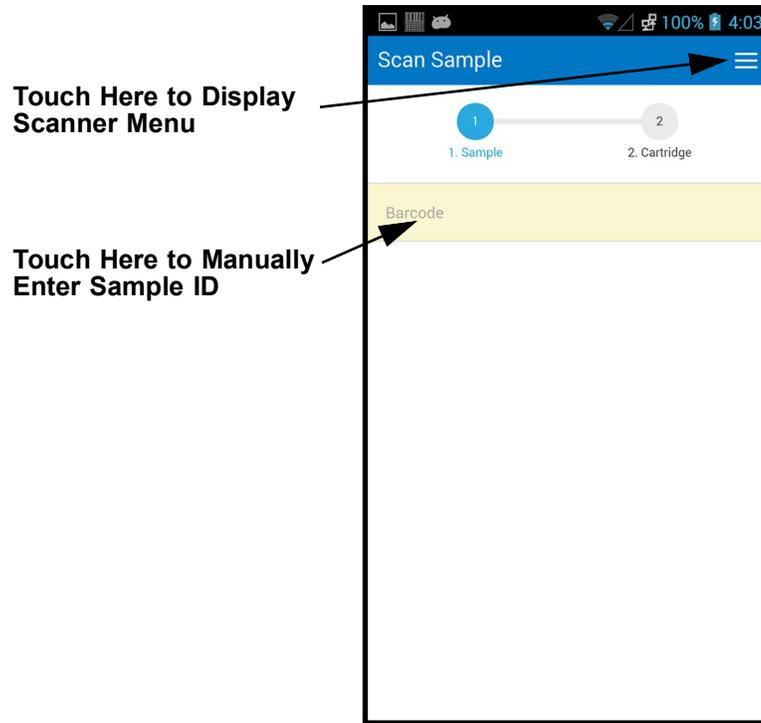
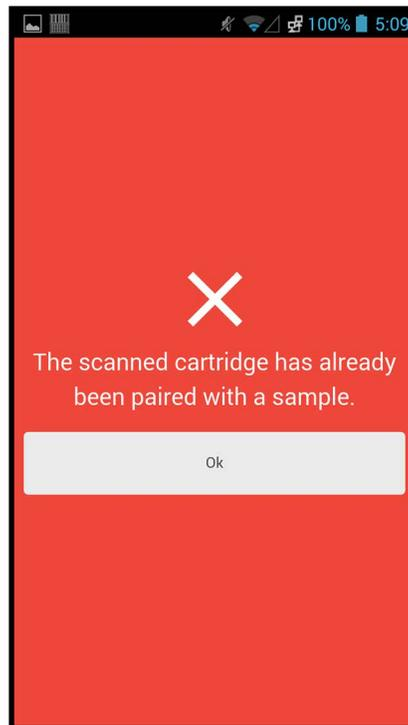
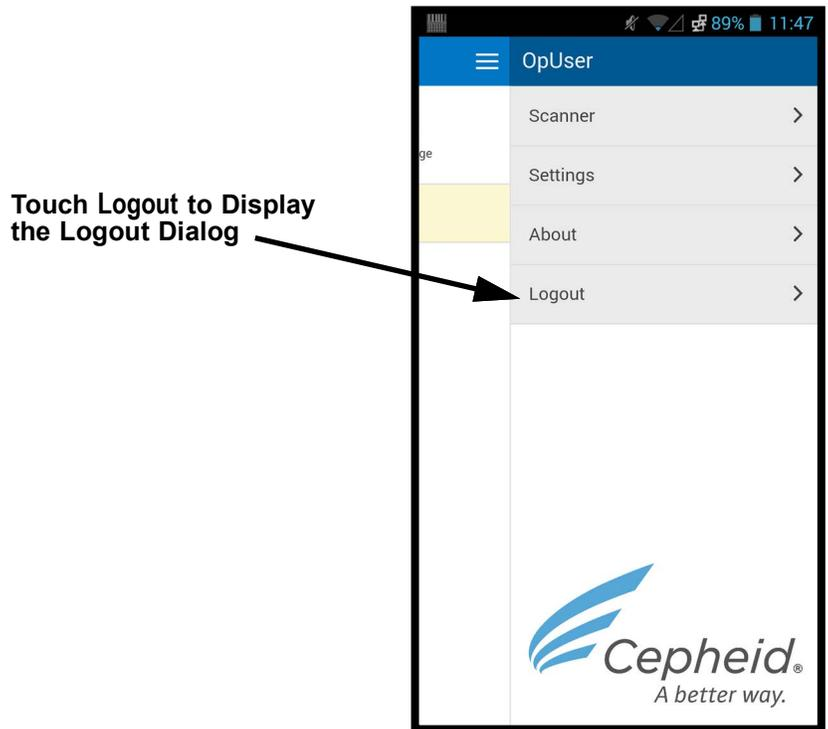

Figure 5-102. Cepheid Link Scan Sample Screen
Figure 5-108. Cepheid Link Scanned Cartridge Error Screen
Figure 5-111. Cepheid Link Scanner Drop Down Menu
3. Log into the Cepheid Link scanner using your assigned user name and password (see Figure 5-101). The Scan Sample screen will be displayed. See Figure 5-102.
- 1) Touch the **Barcode** area of the screen (see Figure 5-102). A keyboard will be displayed (see Figure 5-105) to enter the sample ID manually.
- If the cartridge is not successfully paired with the sample, the Error (Red X) screen will be displayed along with the error message (see Figure 5-108) for an example. Touch the **Ok** button to return to the Scan Cartridge screen. The scanner will return to the Scan Sample screen (see Figure 5-102).
- The scanner will display the Confirmation screen (see Figure 5-110), if aliquots are not required and if Confirmation is enabled, or will return to the Scan Sample screen (see Figure 5-102).
- Touch **Start Over** to not scan the aliquot and return to the Scan Sample screen. See Figure 5-102. A confirmation screen will be displayed after touching the **Start Over** button.
- If the assay is set up for aliquots but the sample has not been divided into aliquots, touch **Skip** to skip scanning an aliquot. The scanner will display the Confirmation screen (see Figure 5-110), if aliquots are not required and if Confirmation is enabled, or will return to the Scan Sample screen (see Figure 5-102).
- Touch **Start Over** to not scan the aliquot and return to the Scan Sample screen (see Figure 5-102). A confirmation screen will be displayed after touching the **Start Over** button.
7. **(Optional)** The scanner will display the Confirmation screen (see Figure 5-110), if enabled, or will return to the Scan Sample screen (see Figure 5-102).
8. If the Confirmation screen is displayed, touch **Start Over** to go to the Scan Sample screen. See Figure 5-102.
10. When all samples and cartridges have been scanned, log off the Cepheid Link. Access the scanner menu by touching the Menu icon in the drop down menu (see Figure 5-102). The scanner menu will be displayed. See Figure 5-111.